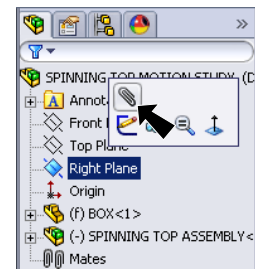

Fig. 3
Step 1. Click **Right Plane**  in the Feature Manager and click **Mate**  from the Content toolbar, **Fig. 3**.